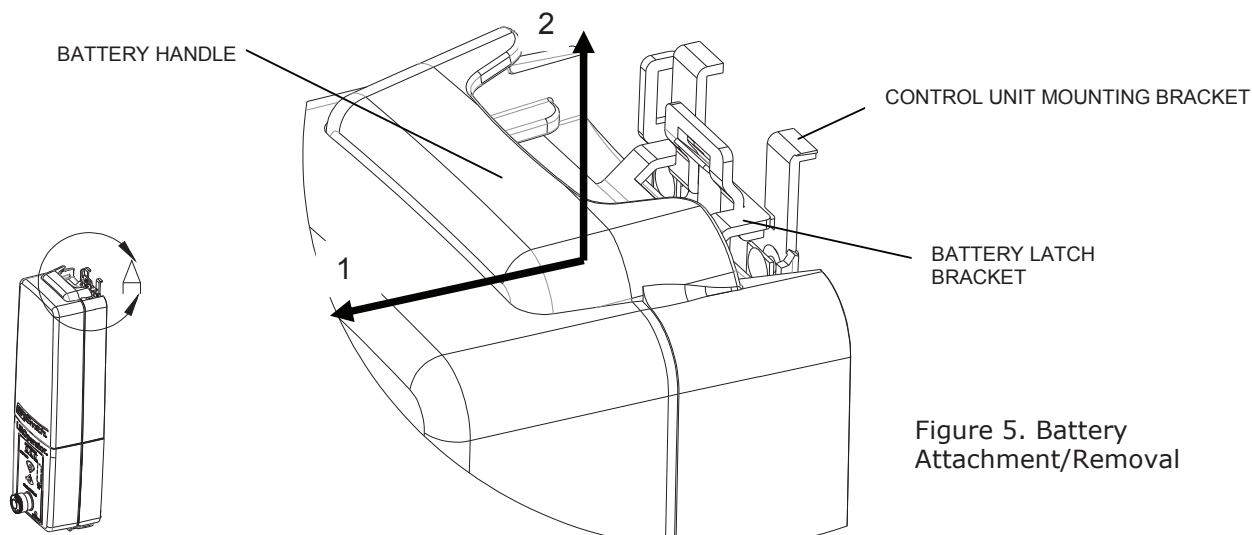

Figure 5. Battery Attachment/Removal
10. Attach battery to LiftOperator control box making sure that the battery latch bracket locks into the slots on the control unit mounting bracket. To remove the battery from the control unit, pull outward on the battery handle until the battery latch bracket clears the slots in the control unit mounting bracket, then pull upward, see **Figure 5**.